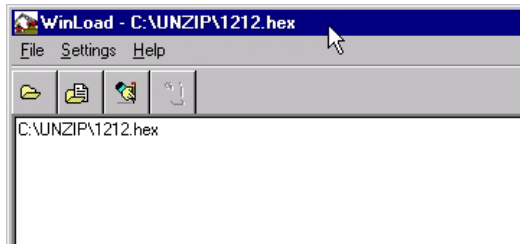

Figure 12: Open File in WinLoad
Once you have selected your file, the name should appear in the main display area and in the title bar, see *Figure 12*.
3. Make sure the file path and file name are displayed in main display area, see *Figure 12, Open File in WinLoad on page 64*.